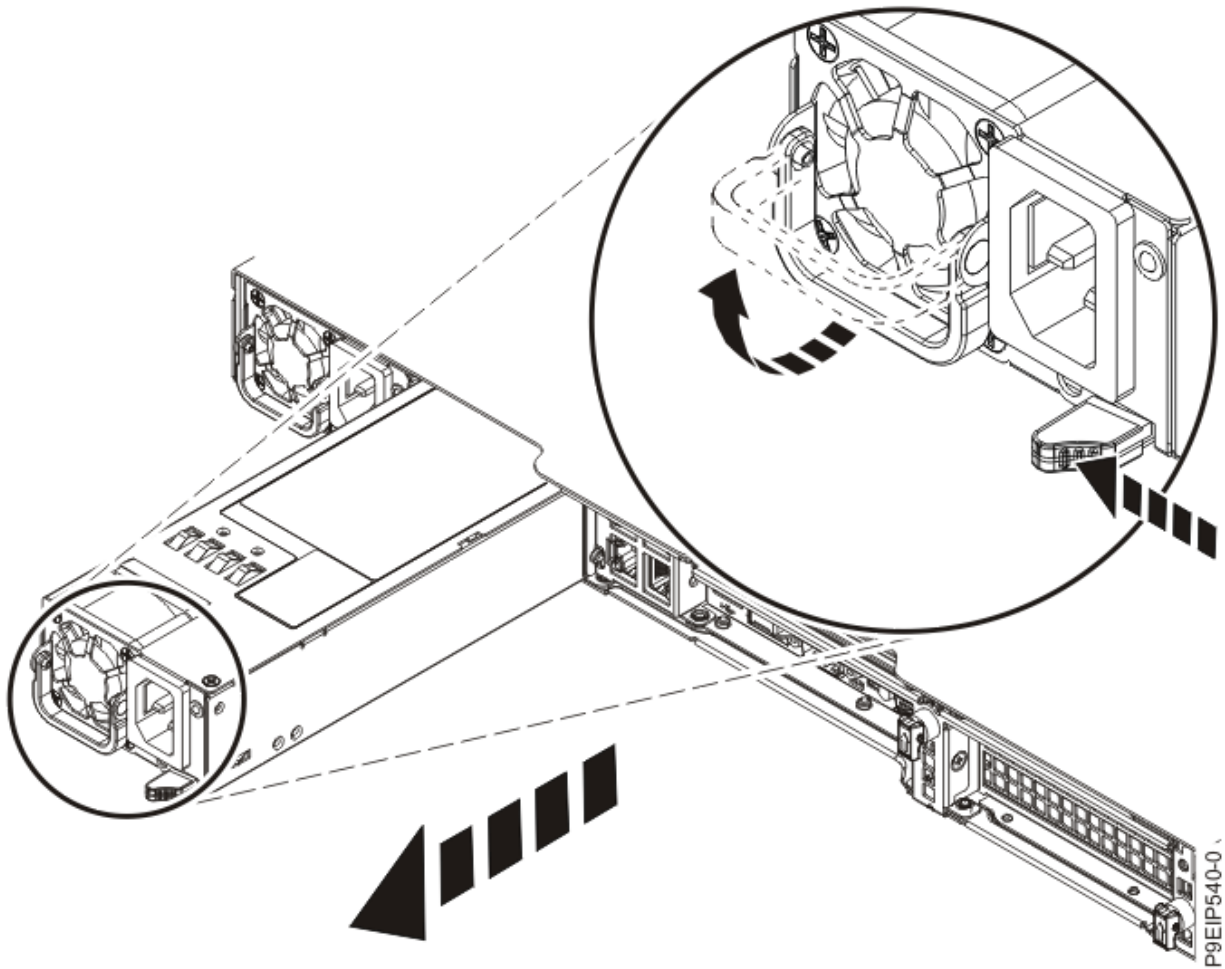

Figure 33. Removing a power supply from the system
- a) To unseat the power supply from its position in the system, push the locking-tab to the left as shown in Figure 33 on page 38.